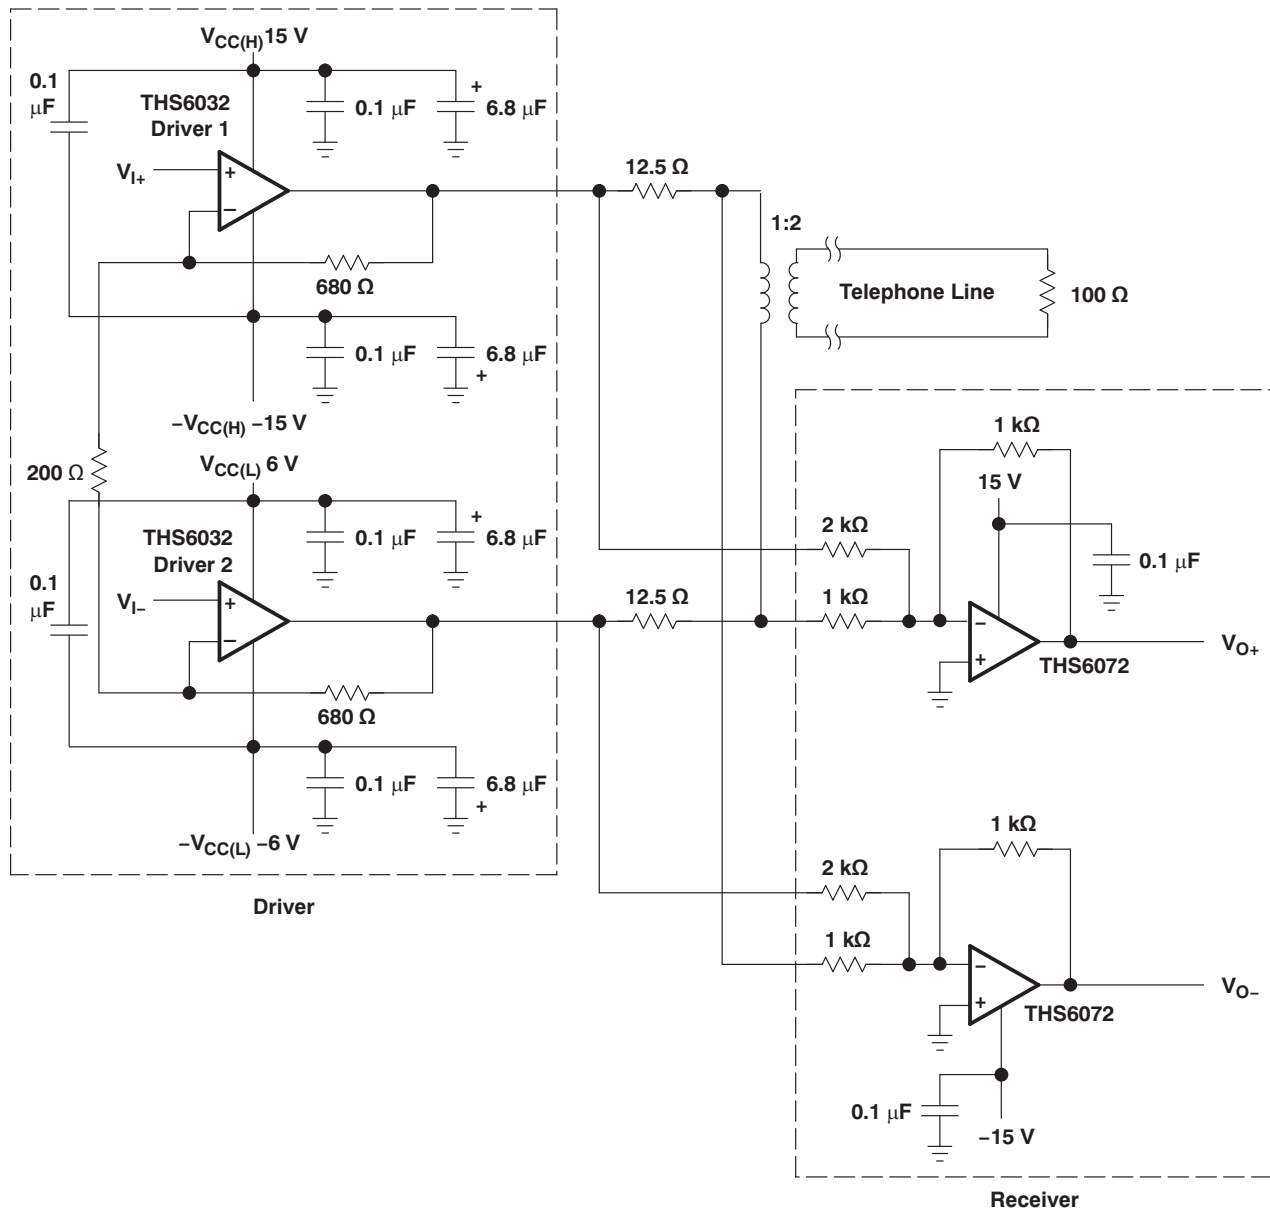

Figure 36. THS6032 ADSL Application
The THS6032 was primarily designed as a low-power line driver for ADSL (asymmetrical digital subscriber line). The driver output stage has been sized to provide full ADSL power levels of 20 dBm onto the telephone lines. Although actual driver output peak voltages and currents vary with each particular ADSL application, the THS6032 is specified for a minimum full output current of 400 mA at its full output voltage of approximately 11 V. This performance meets the demanding needs of ADSL at the central office end of the telephone line. A typical ADSL schematic is shown in Figure 36.
- Differential power supply decoupling – The THS6032 was designed to drive low-impedance differential signals. The 25- Ω load that each amplifier drives causes large amounts of current to flow from amplifier to amplifier. Power-supply decoupling for differential-currents must be provided to ensure low distortion in the THS6032. By simply connecting a 0.1- μ F ceramic capacitor from the + $V_{CC(H)}$ pin to the - $V_{CC(H)}$ pin, along with another 0.1- μ F ceramic capacitor from the + $V_{CC(L)}$ pin to the - $V_{CC(L)}$ pin, differential current loops will be minimized (see Figure 36). This will help keep the THS6032 operating at peak performance.
The THS6032 incorporates a shutdown circuit to conserve power. Traditionally, when an amplifier is placed into shutdown mode, the input and output circuitry are turned off. This conserves a large amount of power, but the output impedance will be a very high, typically greater than several k Ω . This situation does not maintain proper line termination, resulting in a severe reduction of the receive signal coming through the transmission line (see Figure 36).